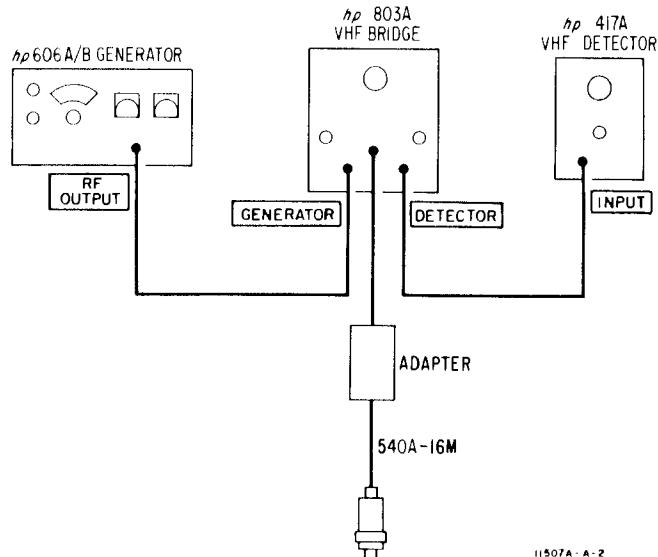

Figure 3. Reflection Coefficient Setup Diagram
b. Connect test setup as shown in Figure 3.